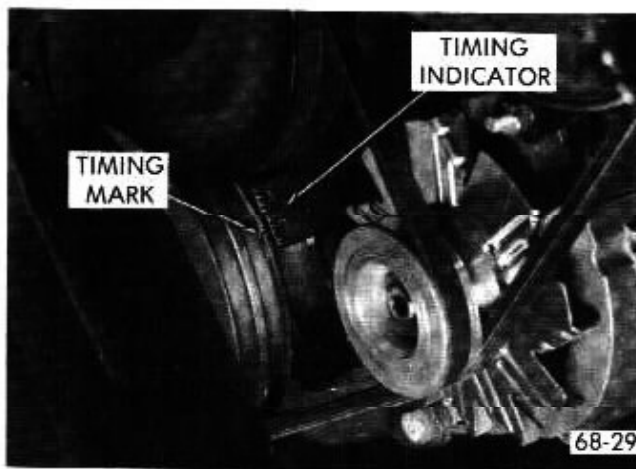

Figure 68-29 - Ignition Timing Mark and Indicator - L-6 Engine
The timing mark is a cut in the edge of the harmonic balancer. The timing indicator, a part of the timing chain cover, has a series of grooves which indicate two degree intervals. The "O" on the timing indicator is at T.D.C. and the "A" is at the ten degrees advance mark. See Figure 68-29.
1. With No. 1 spark plug removed and with hole plugged, rotate crankshaft in a forward direction using a suitable wrench on the harmonic balancer to crankshaft bolt. When plug blows from No. 1 cylinder, continue rotation until timing mark on balancer is aligned with proper mark on timing indicator. See Figure 68-29 or 30. No. 1 cylinder is now in position to fire.
(a) Drive out driven gear pin using a hammer and a 1/8" straight punch. See Figure 68-29.